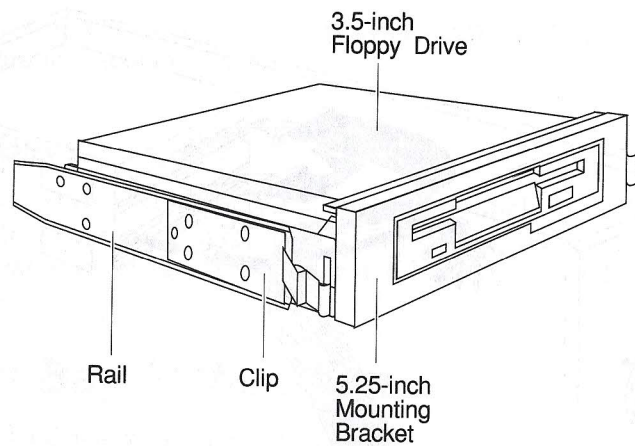

Figure 6-2. Drive with Adapter Bracket and Guide Rails
6. To prepare a 5.25-inch drive for installation, attach the provided guide rails (with retaining clips) to either side of the drive, as illustrated in Figure 6-2. For a 3.5-inch drive, attach an adapter bracket to the drive before attaching guide rails.